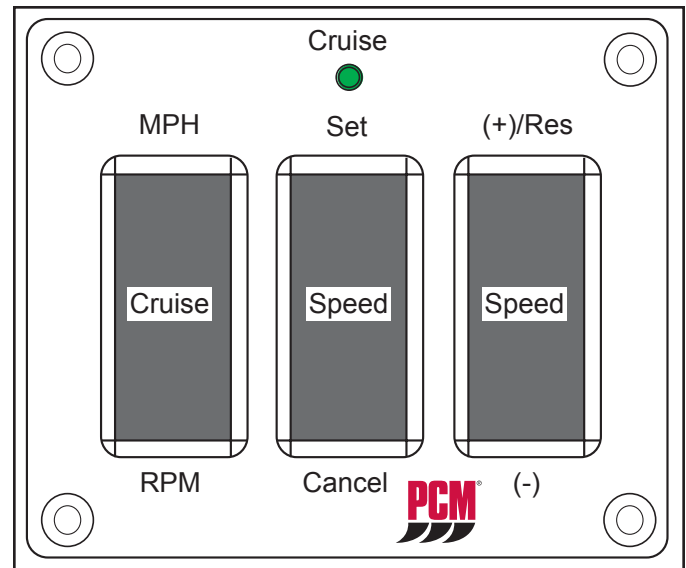

Figure 5-3 PCM Basic Cruise Control Panel (Typical)
7. **In the event the engine becomes flooded,** ensure the Neutral Lockout is engaged and move the throttle lever to a 100% open position (Figure 5-3). At this throttle position, the ECM will command the injectors to deliver no fuel during engine cranking. When the engine starts, return the throttle lever back to the idle position.